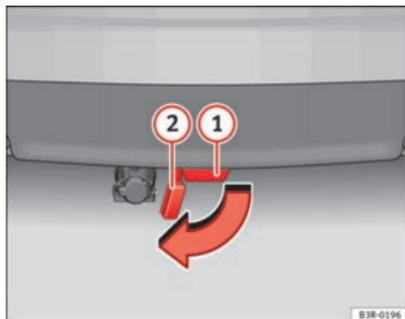

Fig. 156 Rear bumper:
- Remove the cover piece ② ⇒ Fig. 156 on the mounting fixture ① below the bumper as far as it will go. The cover piece is held automatically in the open position.